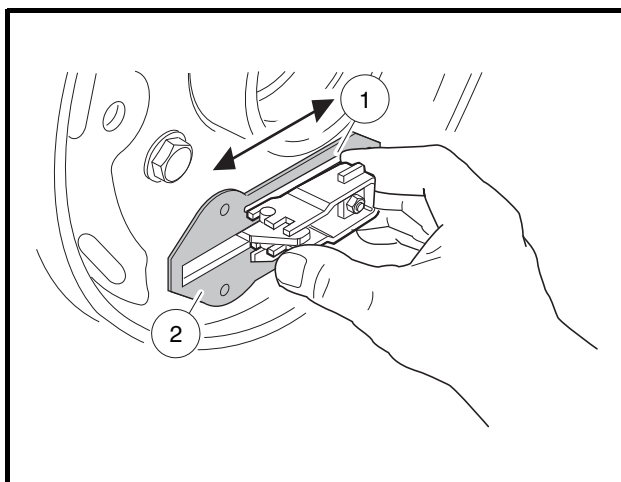

Figure 6-19 Lubricate Slide
3. Lubricate slide (1) and slide plate (2) with dry moly lubricant (CC P/N 1012151) on both sides of the backing plate. After lubricating, work slide back and forth to ensure it slides smoothly and easily (**Figure 6-19**, **Page 6-9**). Reinstall rubber boot onto backing plate. **See following WARNING.**